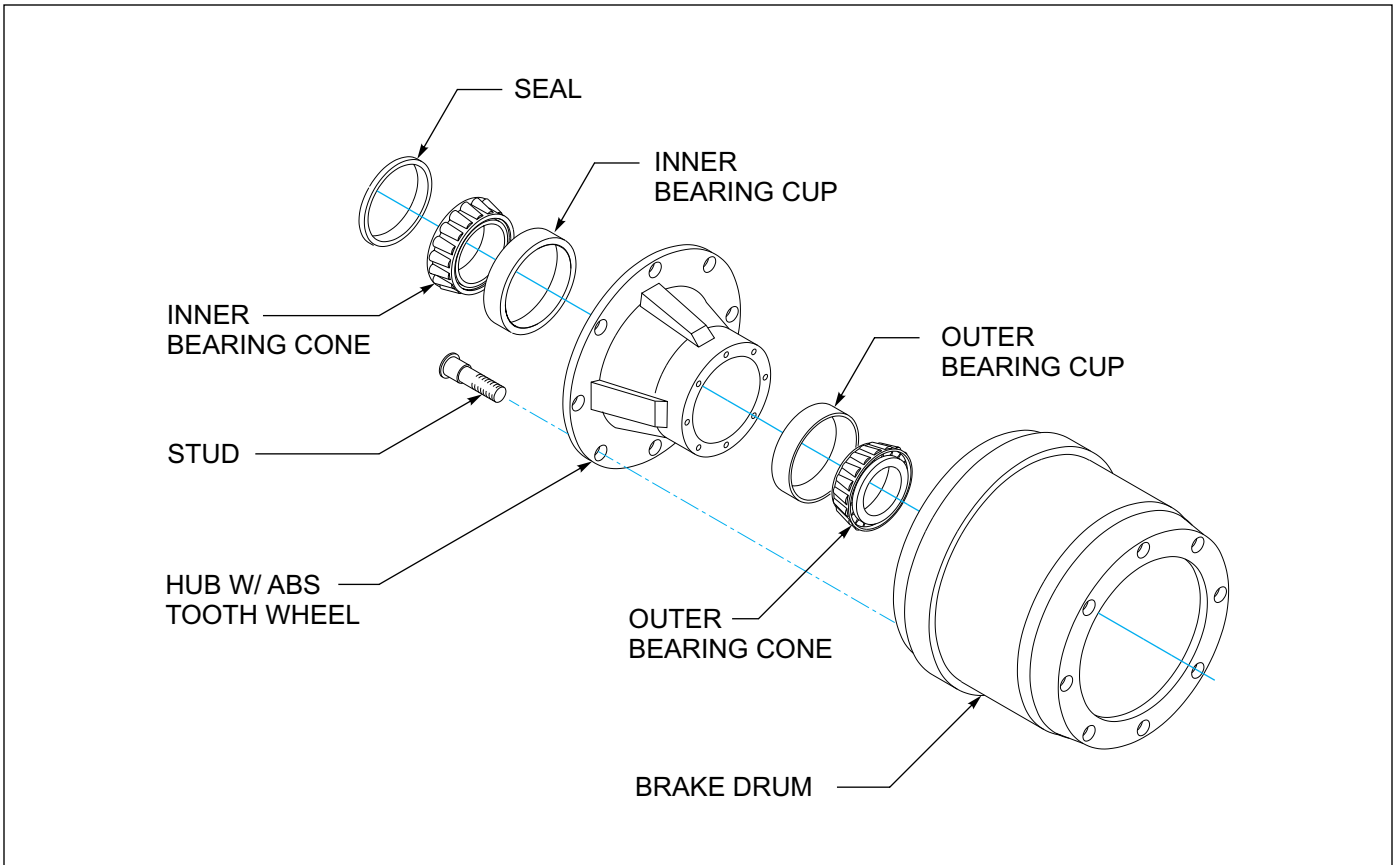

Figure 4-11: Outboard Hub and Drum
1. For outboard mount hub and drum, remove the brake drum (*See Figure 4-11.*) It may be necessary to release the slack adjuster.
18. For Outboard Mounted Brake Drum, place the drum over the hub and brake shoes being careful not to damage the threads on the studs (*See Figure 4-11.*) Make sure the drum seats flat against the hub flange and mates properly with the hub pilot. There should be no interference between the brake drum pilot chamber and the corner radius on the hub. If interference exist, the hub will not be able to function properly.